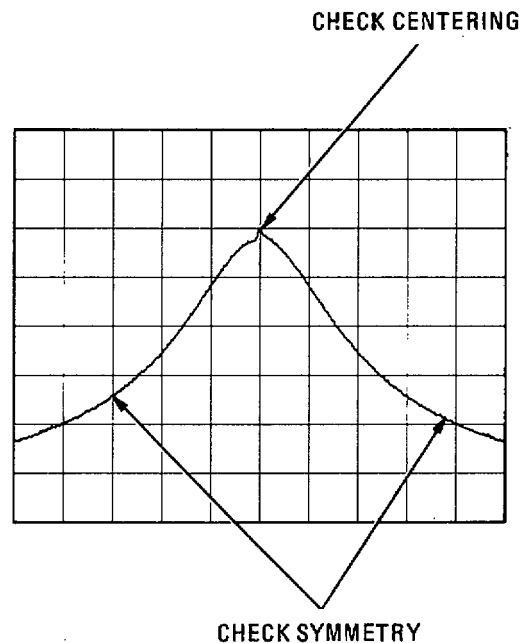

Figure 5-8. Adjusting Crystal Symmetry and Crystal Centering
13. Adjust front-panel TUNING control to center bandpass spike (Figure 5-8) on the CRT display.
14. Adjust A13C38 SYM and A13C54 CTR for a centered and symmetrical bandpass as shown in Figure 5-8. Adjust A13C54 CTR for minimum signal amplitude.